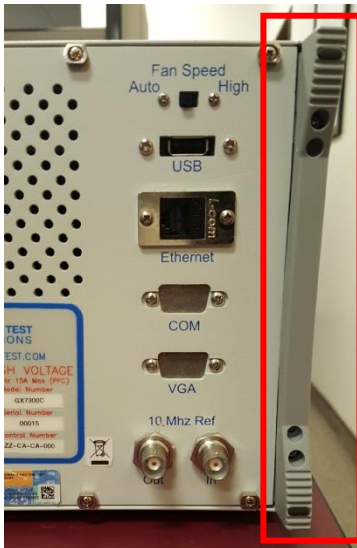

Figure 2: Chassis Bumpers
2. Remove the bumpers from the back of the chassis using the Torx-10 screw driver. Note Figure 2 below. Also note that the bumpers are keyed and their locations should be noted and retained for reinstallation.
3. Screw in the 2 bumpers on the back of the chassis using the Torx-10 screw driver. Note Figure 2 above. Observe the bumper keying to align the bumper correctly.